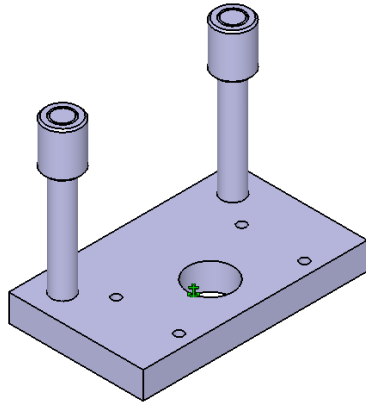

Figure 11-89 Assembly after placing the second set of Guide Pillar and Guide Bush
- d. Guide Pillar and Guide Bush are to be duplicated using the **Reuse Pattern** tool, refer to Figure 11-89.
Once both the components are duplicated, you can close the expanded branch of the **Specification Tree**. Figure 11-89 shows the assembly model, after placing the second set of Guide Pillar and Guide Bush.